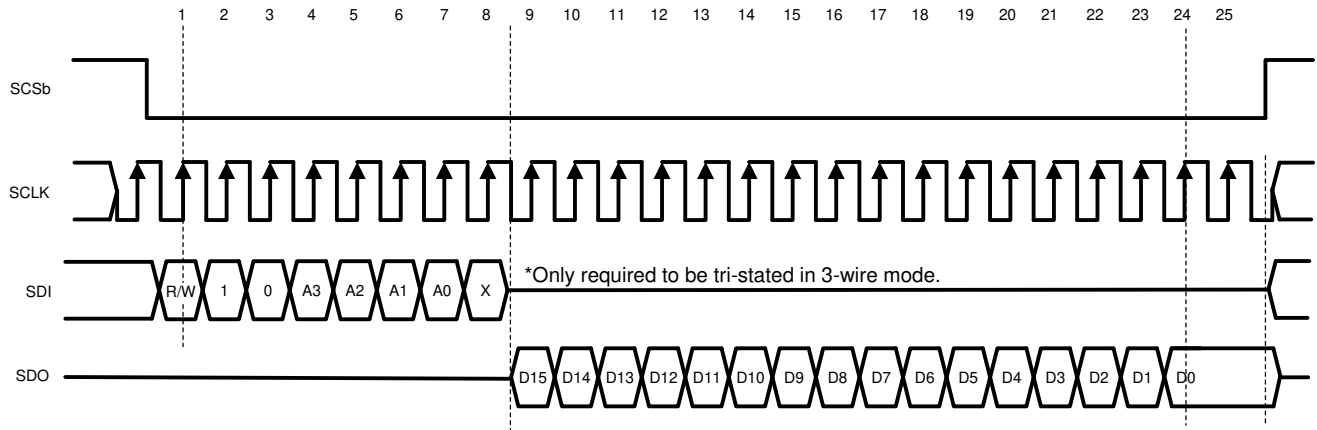
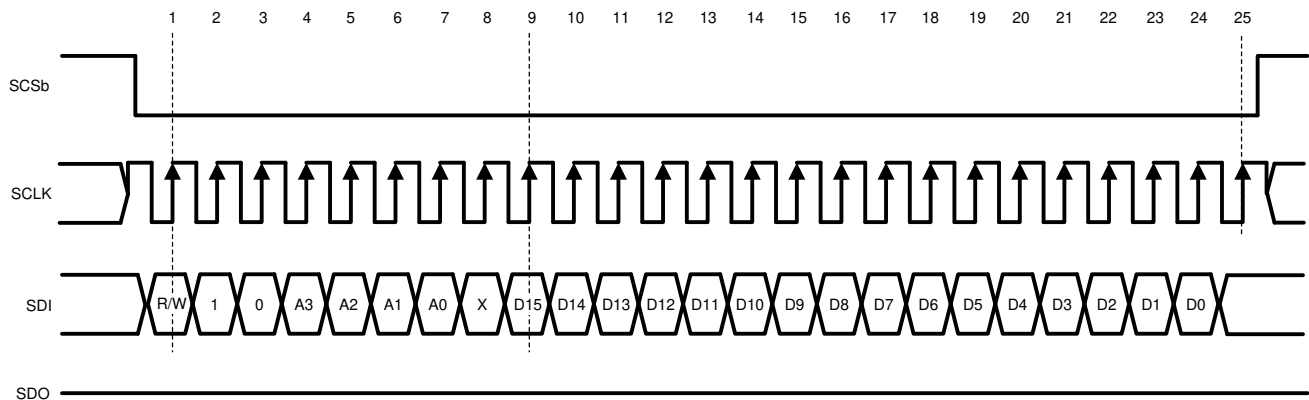

Figure 5-5. Serial Data Protocol - Read Operation
Figure 5-6. Serial Data Protocol - Write Operation
(1) The serial data protocol is shown for a read and write operation in Figure 5-5 and Figure 5-6, respectively.